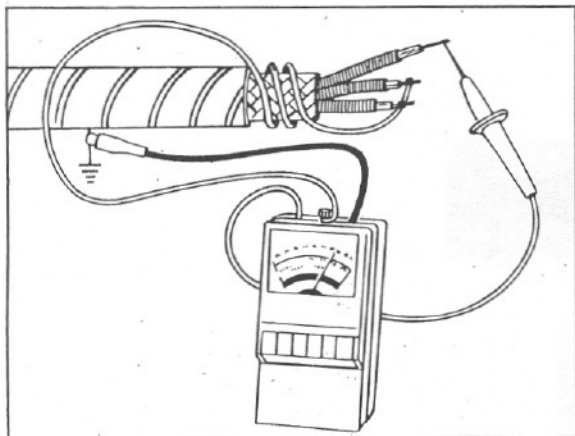

FIG. 17
3. This is accomplished by adding a third terminal, GUARD TERMINAL, on your MEG-O-VOLT™, to the circuit, connected as shown in Fig. 17.